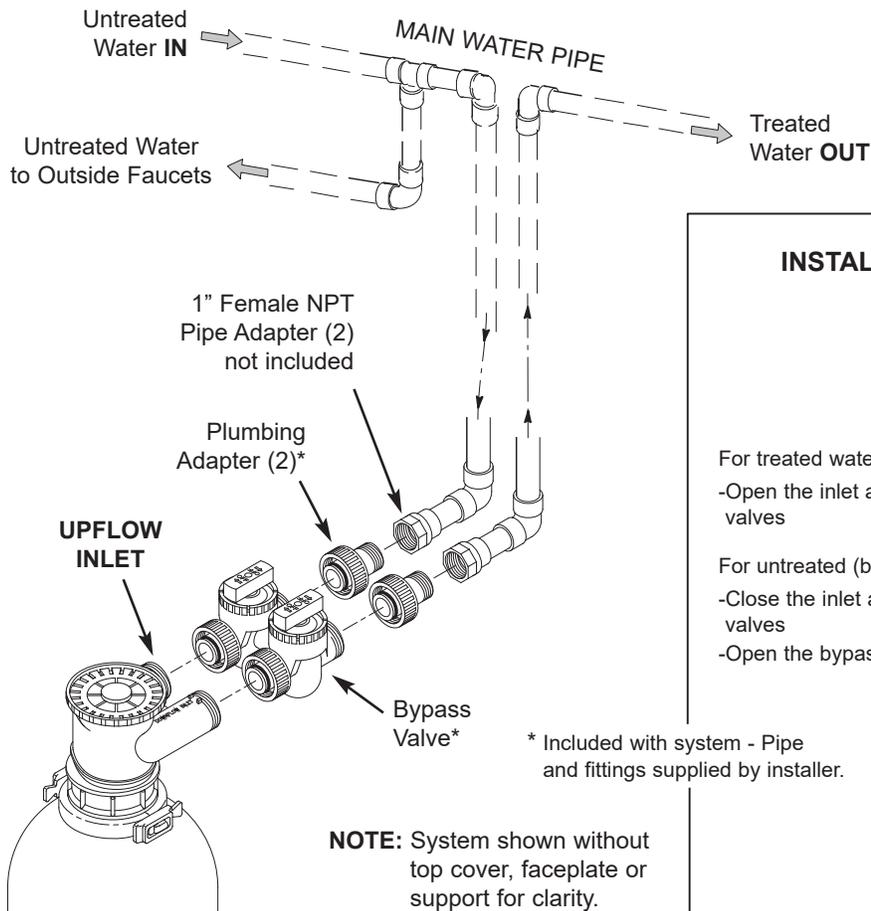

FIG. 2
- If installing a single bypass valve, thread the bypass valve, with lubricated o-ring seals in place, onto the head inlet and outlet ports (See Fig. 2). Tighten the collars by hand for a leak-tight seal.